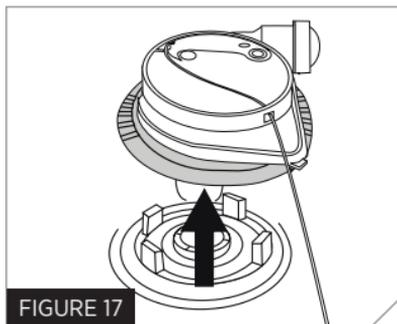

FIGURE 17
6. Once you can no longer turn the black locking ring, you will be able to pull the entire inflator cap (yellow piece and black locking ring together) off the PFD (Fig. 17). Discard this used inflator cap. (Through the clear O-ring, you will now see the used inflator body – which looks like a black circular disc – attached to your used gas cylinder.)